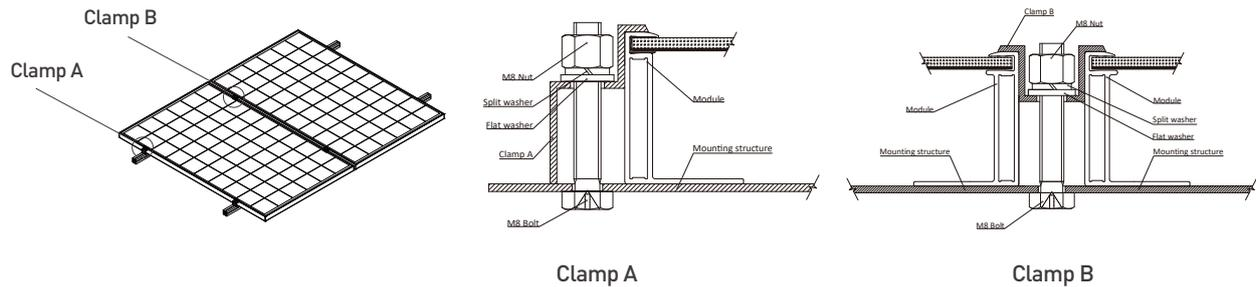

Figure2 Clamp installation
2、Clamping installation: (see figure 2)